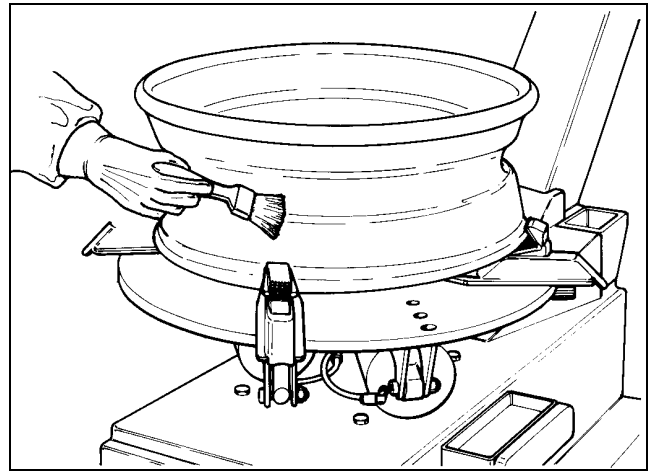

Fig.18
A. Lubricate the entire rim surface (Fig.18).